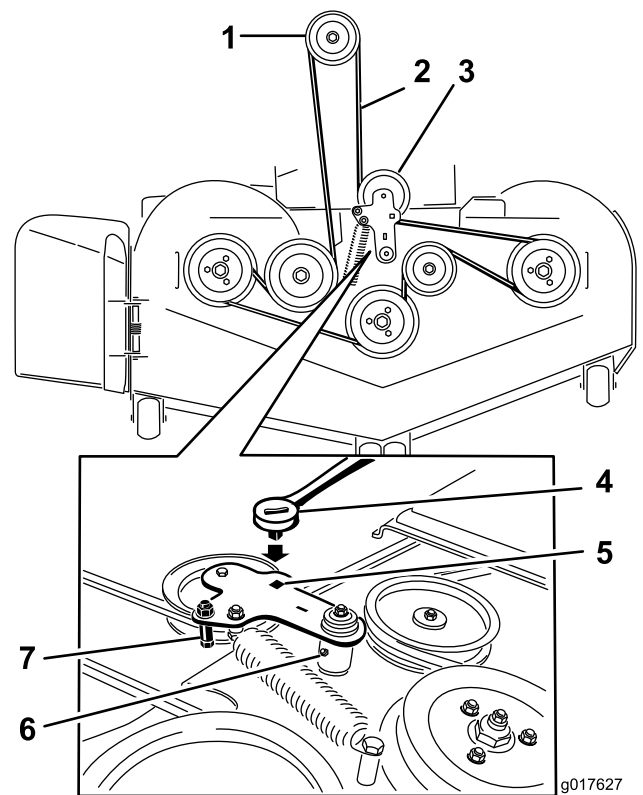

Figure 57
10. Install the belt guide on the idler arm (Figure 57).
11. Using the ratchet in the square hole, install the idler spring (Figure 57).
5. Use a ratchet in the square hole in the idler arm to remove tension on the idler spring (Figure 57).
7. Remove the belt guide on the spring-loaded idler arm (Figure 57).
9. Install the new belt around the mower pulleys and the clutch pulley under the engine (Figure 57).